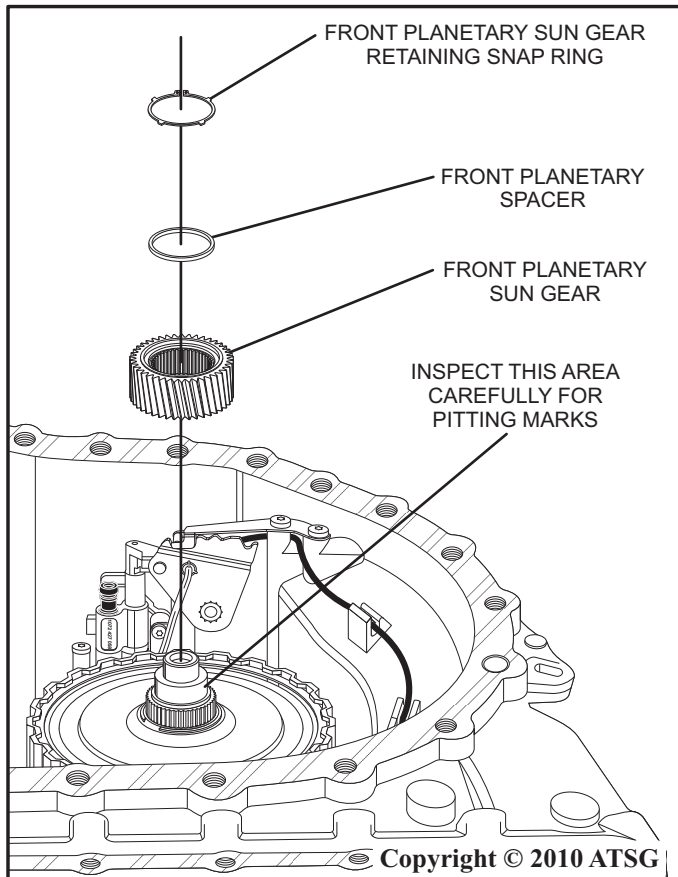

Figure 20
44. Install the front planetary sun gear as shown in figure 20.
45. Install the front planetary spacer as shown in figure 20.
46. Install the front planetary sun gear retaining snap ring as shown in figure 20.